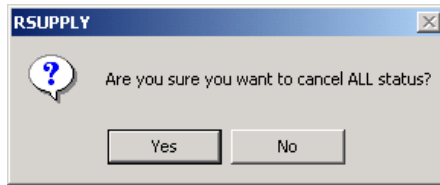

Figure 6.18
6.5.2.1 Select **Release** or **Cancel** on each row or use the  (**Release All**) or  (**Cancel All**) buttons to release/cancel all status requests. When **Release All**  is selected, the user receives a **Batch Request Confirmation** message. When **Cancel All**  is selected, the user is prompted to select **Yes** or **No** on the **RSupply** message window (Figure 6.18) that appears.